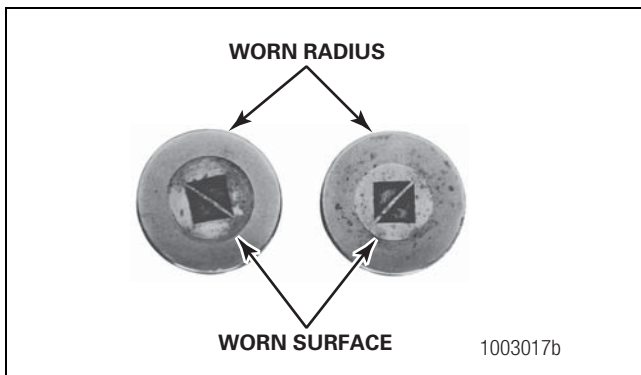

Figure 10.1
- The center of the large-diameter end of the rollers is worn level with or below the outer surface. Figure 10.1.
- The radius at the large-diameter end of the rollers is worn to a sharp edge. Figure 10.1.